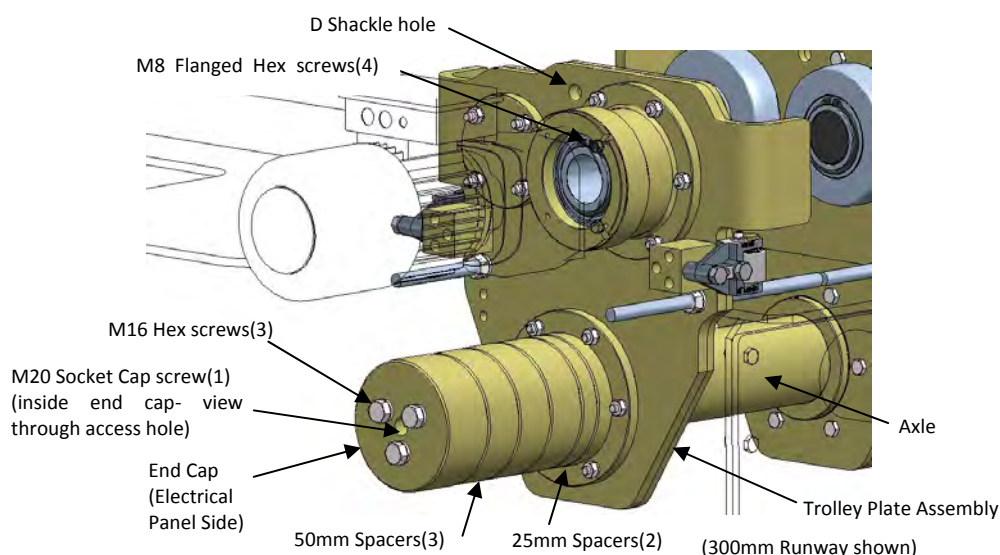

Figure 20 –CT Trolley Plate Assembly 'Electrical Panel side'
- Whilst the hoist is on the floor and stood on its delivery feet, identify M16 Hex screws (3) and M20 Socket Cap screw (1) (view through access hole), on CT trolley and non CT trolleys on Electrical Panel Side only (see Figure 20).
- Using a 17mm AF Allen key ensure M20 Socket Cap screw (1) is fully screwed in, turning the screw clockwise.
- Remove the Endcap 'Electrical Panel Side', loosen and remove M16 Hex screws(3), see Figure 20.
- Remove the 50mm spacers(3) and 25mm spacers(2) from the axle and place aside.
- Remove/slide the Trolley Plate Assembly off from the axle, see Figure 20. Use the D shackle holes to attach suitable lifting equipment (70 kg), place aside.